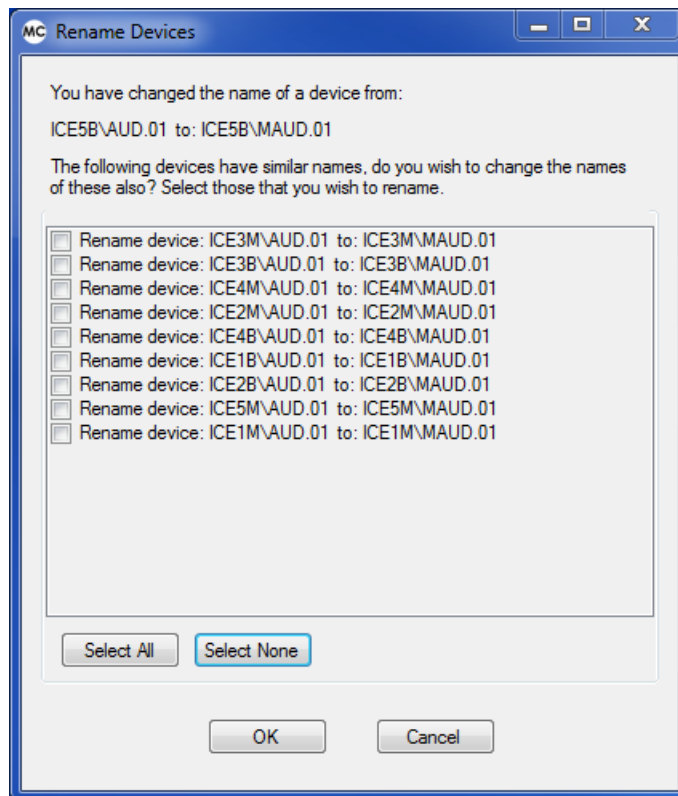

Figure 35 Renaming Multiple Devices
3. Click on **Apply**. If other devices exist that have the same name, the Rename Devices window is displayed (Figure 35) that enquires as to whether they should also be renamed.